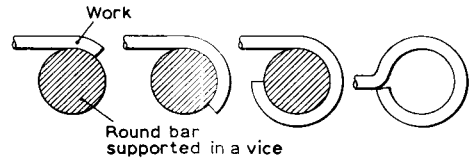

Fig. 4.124 Operations for forming an eye
2. *Bending* can be carried out cold but it is best done when the metal is hot. Methods of bending are illustrated in Fig. 4.124.